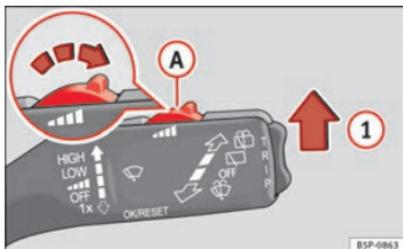

Fig. 81 Windscreen wiper lever.
- Move the windscreen wiper lever into position ① ⇒ Fig. 81.
- Move the control ① to the left or right to set the sensitivity of the rain sensor. Control to the right: highly sensitive. Control to the left: less sensitive.